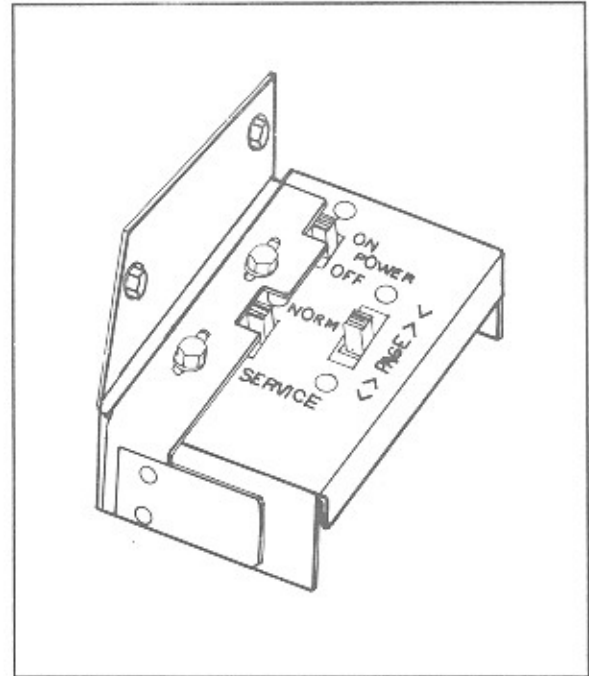

Figure 3-2. Service Switch
1. Open the top door and place the SERVICE switch (figure 3-2) in the SERVICE position. The phonograph display will say * SERVICE MODE *. At this point, the phonograph is in Security Level 1. You can only view audit information in this security level. In order to clear the cash, play, and popularity figures you must obtain and properly enter the security code for SECURITY LEVEL 2.